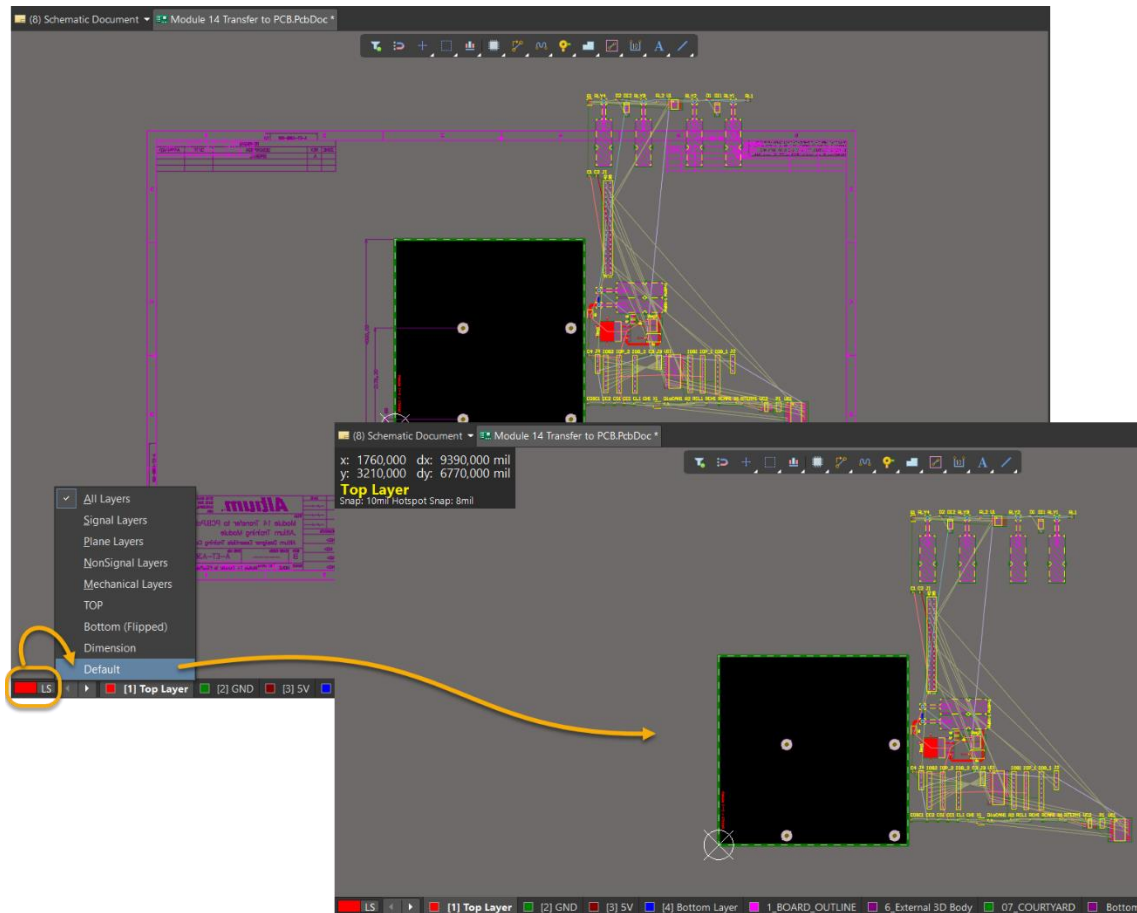

Figure 5. Initial Transfer and using an example Layer Set
20. To control the visibility of the used layers, from the lower left select **Layer Set (LS)** , from the pop-up menu select **Default**. The **Default** Layer-Set deactivates the layers: Title Block information and Dimensions, see Figure 5.